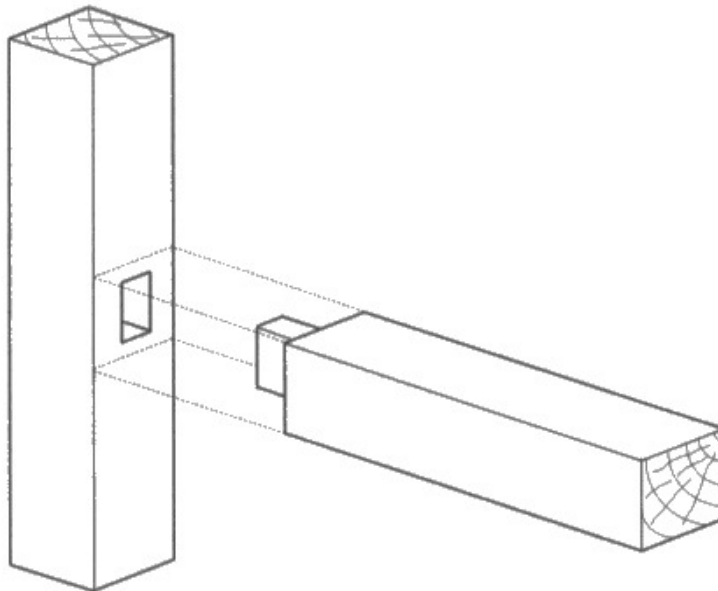

Figure 5
- 6 Figure 5 shows a wood joint that is to be used on a single piece of furniture. The joint will be positioned and marked out using a pencil and other marking out tools.